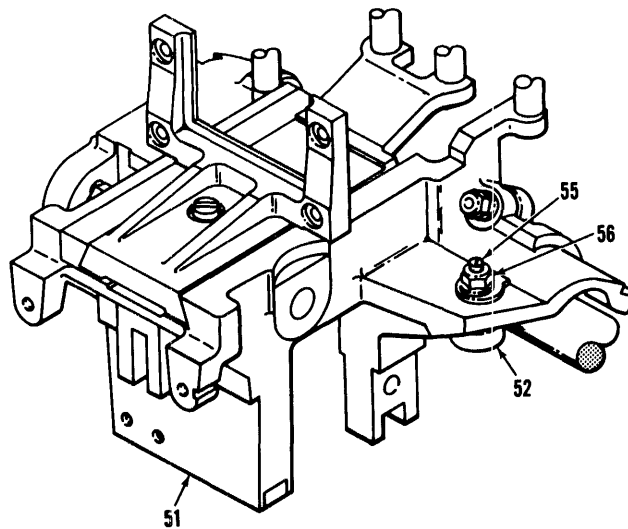

Figure 5-1. CARRIAGE MOVEMENT ADJUSTMENTS
- B. Carriage Movement and Retainers (AA-100) (Fig. 5-1 and Fig. 8-1).
9. Loosen locknuts (BA-56) on left and right eccentric axles (BA-55). (See Figure 5-1).